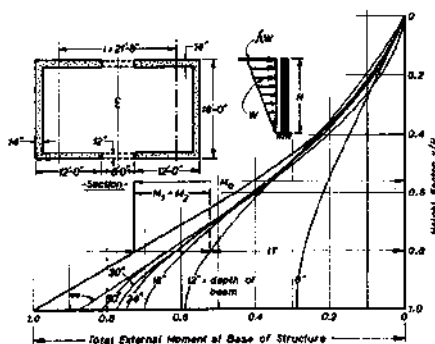

Fig. 13: The Mode of Internal Moment of Resistance in Coupled Shear Wall Structures
Fig.13 illustrates the influence of efficiency of coupling. A high coupling throws more moment on walls. One may say that the coupling is efficient if more than 50% of M_o is resisted by 'IT'.
Fig.14 shows the results of an elasto plastic analysis for the structure illustrated in Fig.13. The ultimate load is attained in stages. At each stage ductility demands on the components have been computed and presented. By the beams plasifying before the walls, large energy can be dissipated by the coupling system so that the is higher degree of protection to the walls and foundation (9).